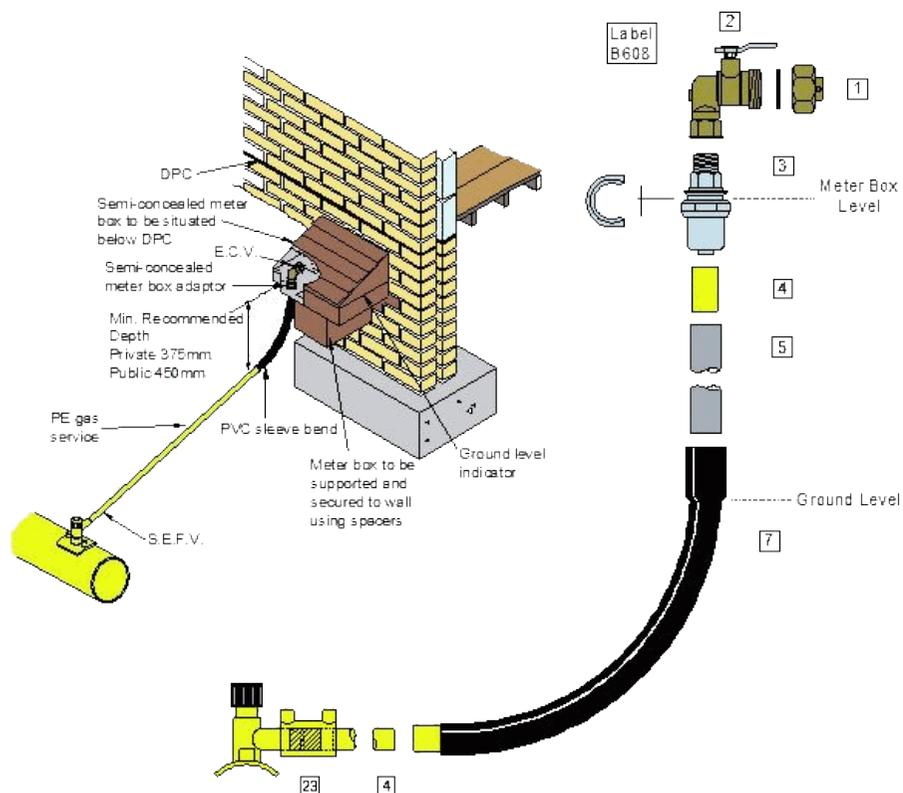

Figure 90 - MP PE service to semi concealed meter box
1. Figure 90 shows the layout.
3. You must locate the tip of the relief vent pipe no closer than 1.0 m to any opening into a property and at least 1.5 m away from any electrical equipment, in accordance with Figure 90.